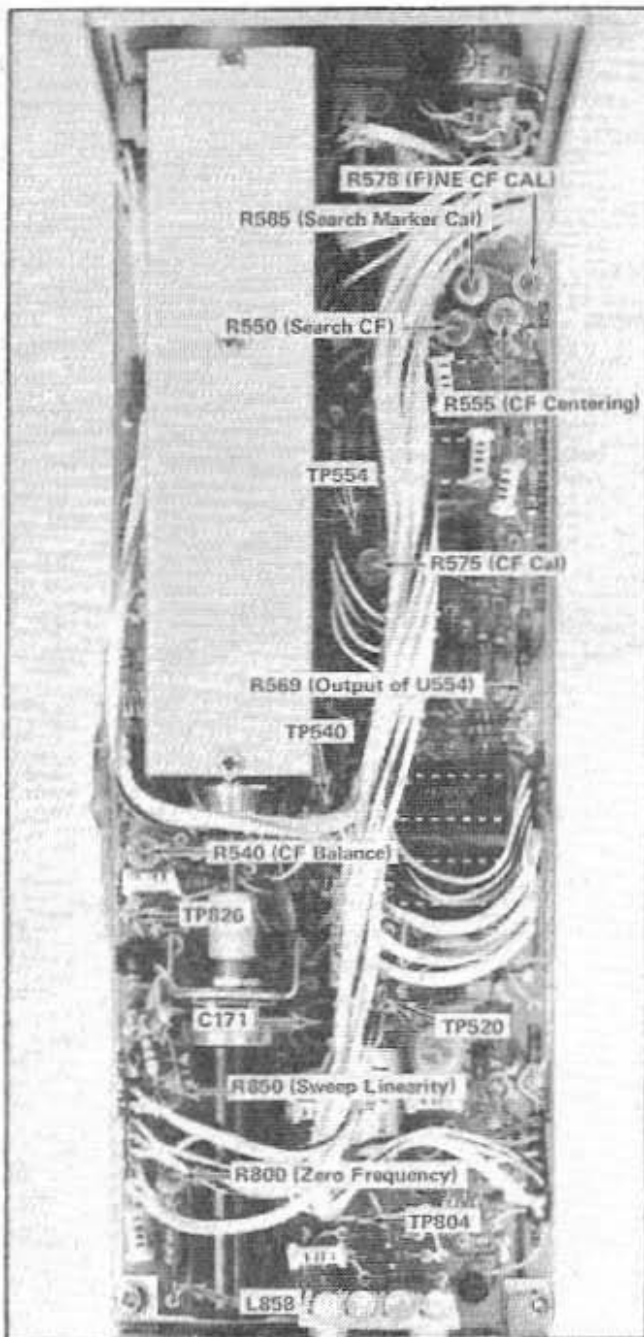
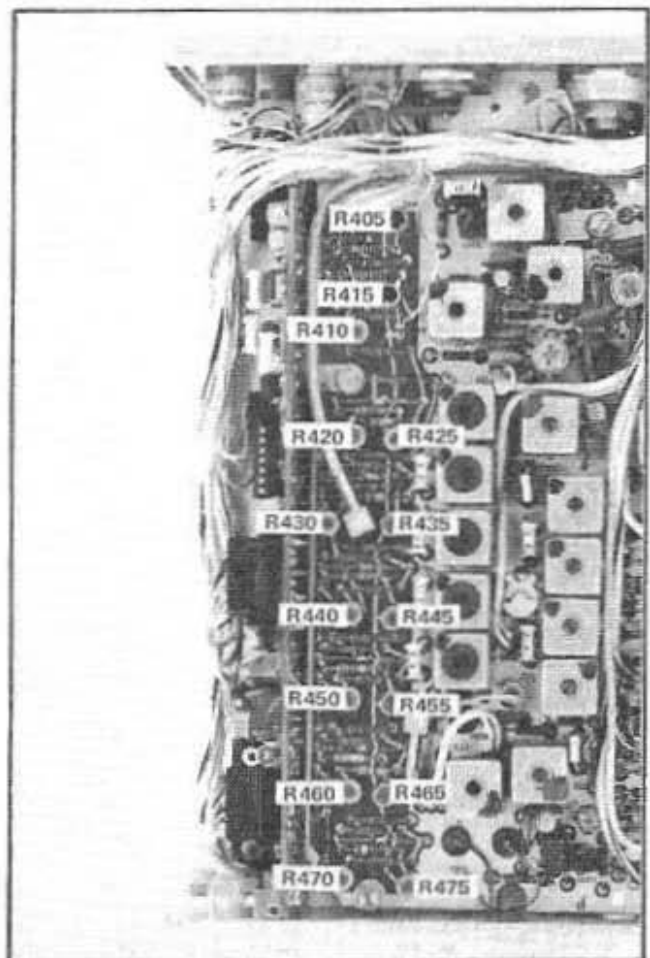
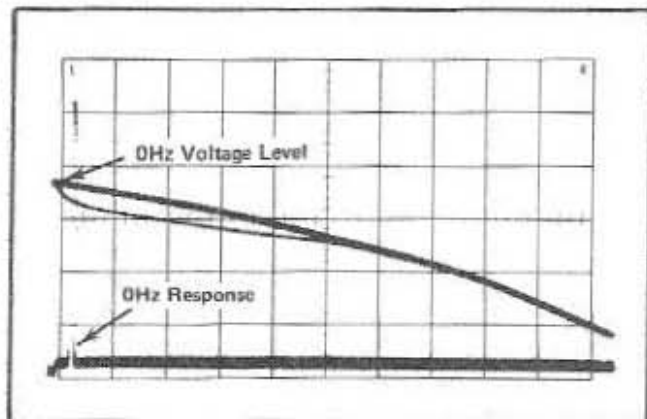

Fig. 6-11. Location of test points and adjustments on the sweep circuit board.
Fig. 6-13. Location of the sweep shaper adjustments.
Fig. 6-14. Typical display of waveform at TP826 when sweep shaper adjustments are turned fully clockwise.
3) Connect the probe to TP554 (Fig. 6-11) and pre-set CF Bal R540 to midrange. Adjust the test oscilloscope External Horizontal Gain for about 10.5 division display with equal overscan at each end.
4) Adjust R555, CF Centering (Fig. 6-11) for 0 V at TP 554.
8) Turn sweep shaper adjustments R415 (Fig. 6-13) and Sweep Linearity adjustment R850 (Fig. 6-11) fully counterclockwise. Turn the remaining sweep shaper adjustments R405, R410 through R475 (Fig. 6-13) fully clockwise.
9) Remove the probe from TP 554 and connect it to TP 826 (Fig. 6-11). Set the vertical sensitivity for the probe channel to 0.5 V/Div. Switch the Input Coupling to GND position and position the sweep to the top graticule line for 0 V reference. Switch the Input Coupling to DC position and the FREQ SPAN MHz/DIV to SEARCH. The display should resemble the illustration of Fig. 6-14.
11) Adjust R850 (Sweep Linearity, see Fig. 6-11) clockwise until the 0 Hz response appears at the left edge of the video display. (See Fig. 6-14.) It may be necessary to decrease the setting of R800 if 0 Hz can not be brought on screen. At this time move the probe back to TP554 and check to insure the sweep ramp crosses 0 V at the 0 Hz response position. Re-adjust R555 and R550 if necessary.
3) Adjust R405 (Fig. 6-13) counterclockwise, to increase the sweep slope, until the frequency span (dispersion) of the first one or two markers pulls into 1 marker/division. Fig. 6-14 illustrates a typical display at this point.
3) Adjust R555, CF Centering, (Fig. 6-11) to position a 250 MHz signal at screen center.
5) Adjust R550, Search CF, (Fig. 6-11) to position the 250 MHz signal at the center graticule line.
6) Tune the CENTER FREQ MHz control to select another frequency, such as 400 MHz, on the display. Adjust R575, CF Cal, (Fig. 6-11) to position the signal at the center graticule line as the FREQ SPAN MHz/DIV selector setting is decreased towards 0.
3) Adjust R585 (Fig. 6-11) to position the frequency marker (notch) under the selected signal.